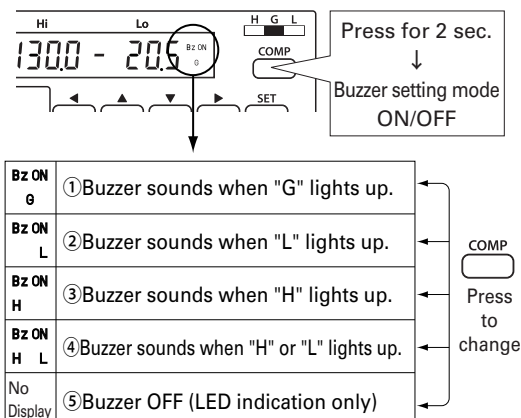

Fig. 9
2. Press COMP Key and select buzzer timing from ① to ⑤ shown in fig. 9.
- NOTE :** Default setting is ①.